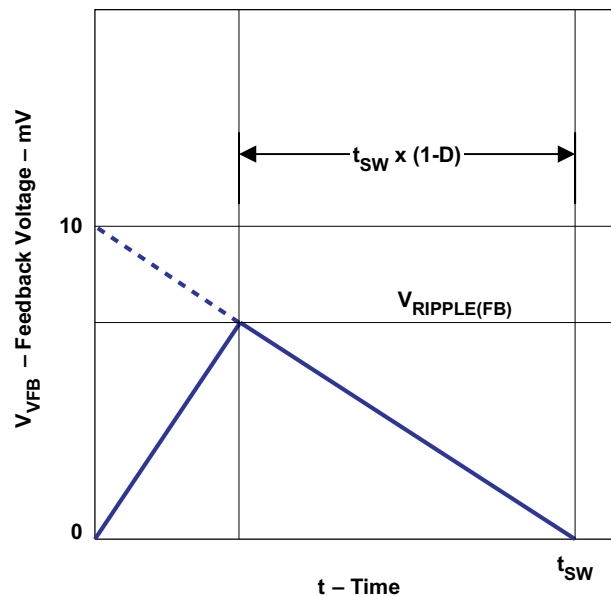

Figure 18. Ripple Voltage Down Slope
- the output ripple down slope rate is 10 mV/t_{sw} in terms of VFB terminal voltage as shown in Figure 18